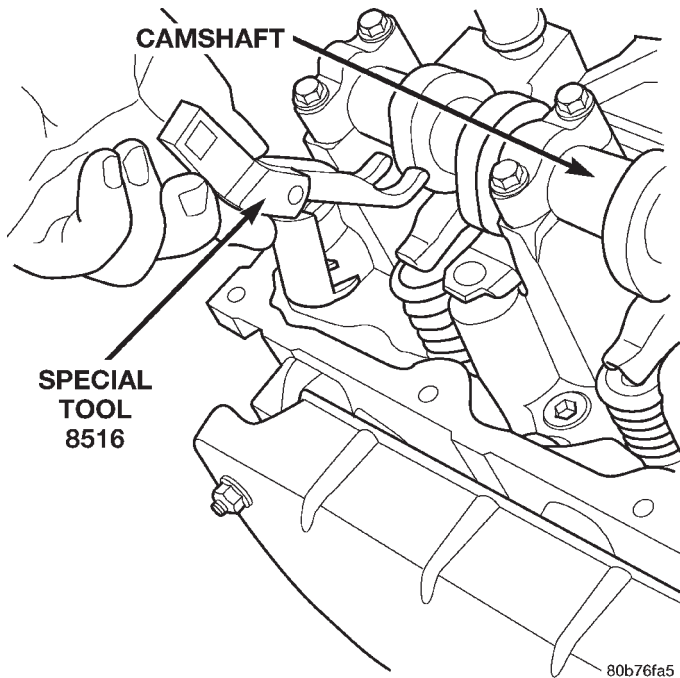

Fig. 52 Rocker Arm—Removal
- (1) Using Special Tool 8516 Valve Spring Compressor, remove the rocker arms and the hydraulic lash adjusters (Fig. 52).
- (2) Remove the camshaft bearing caps and the camshaft.
(8) Position the hydraulic lash adjusters and rocker arms (Fig. 52).